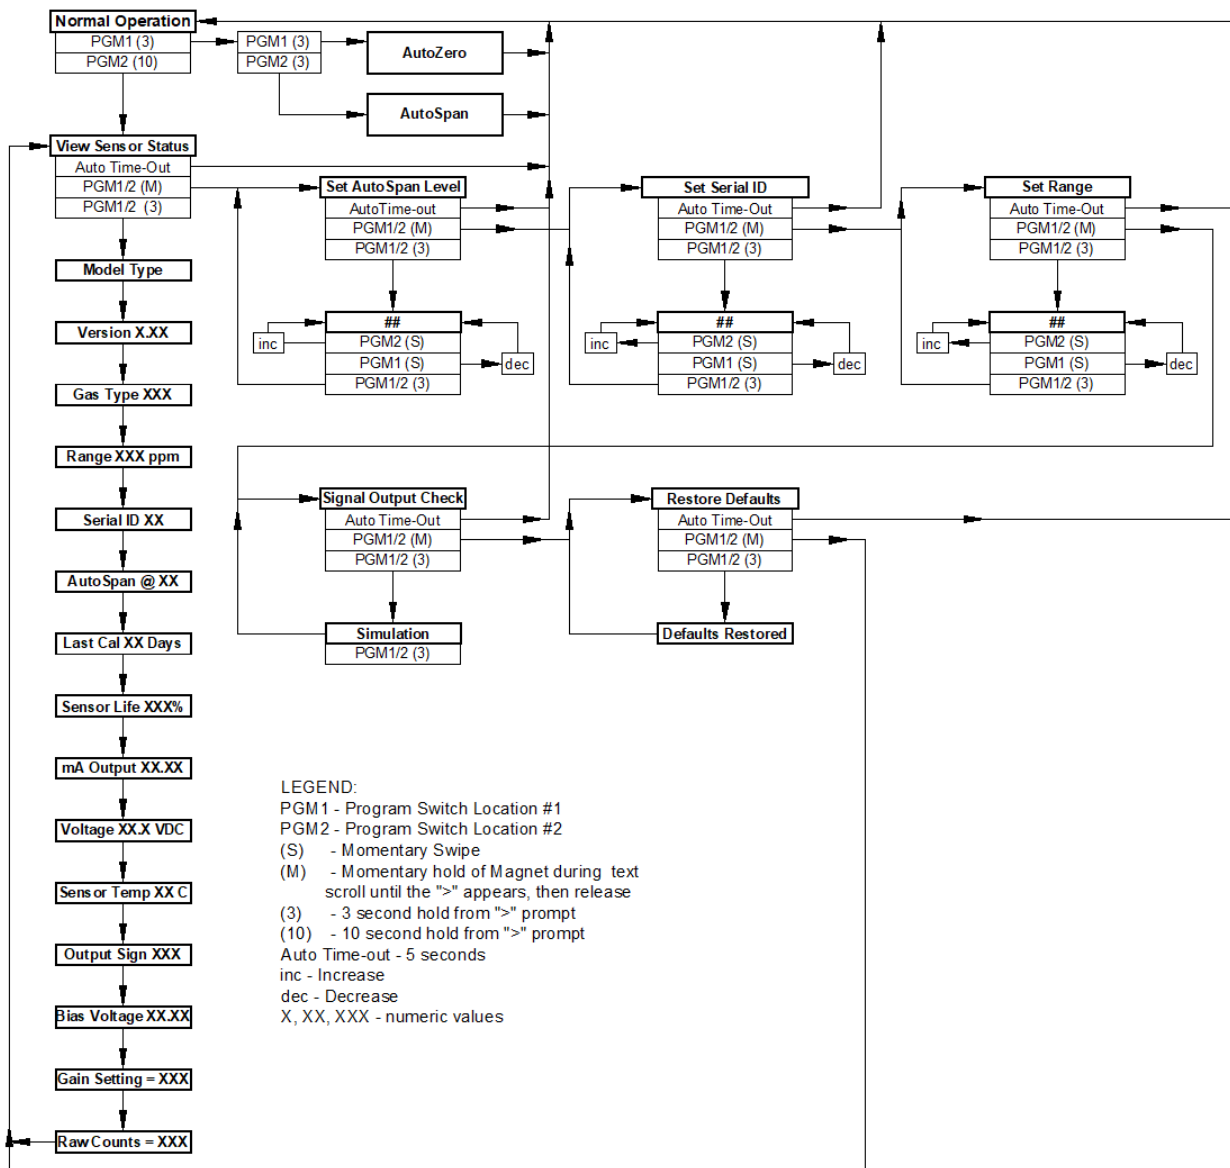
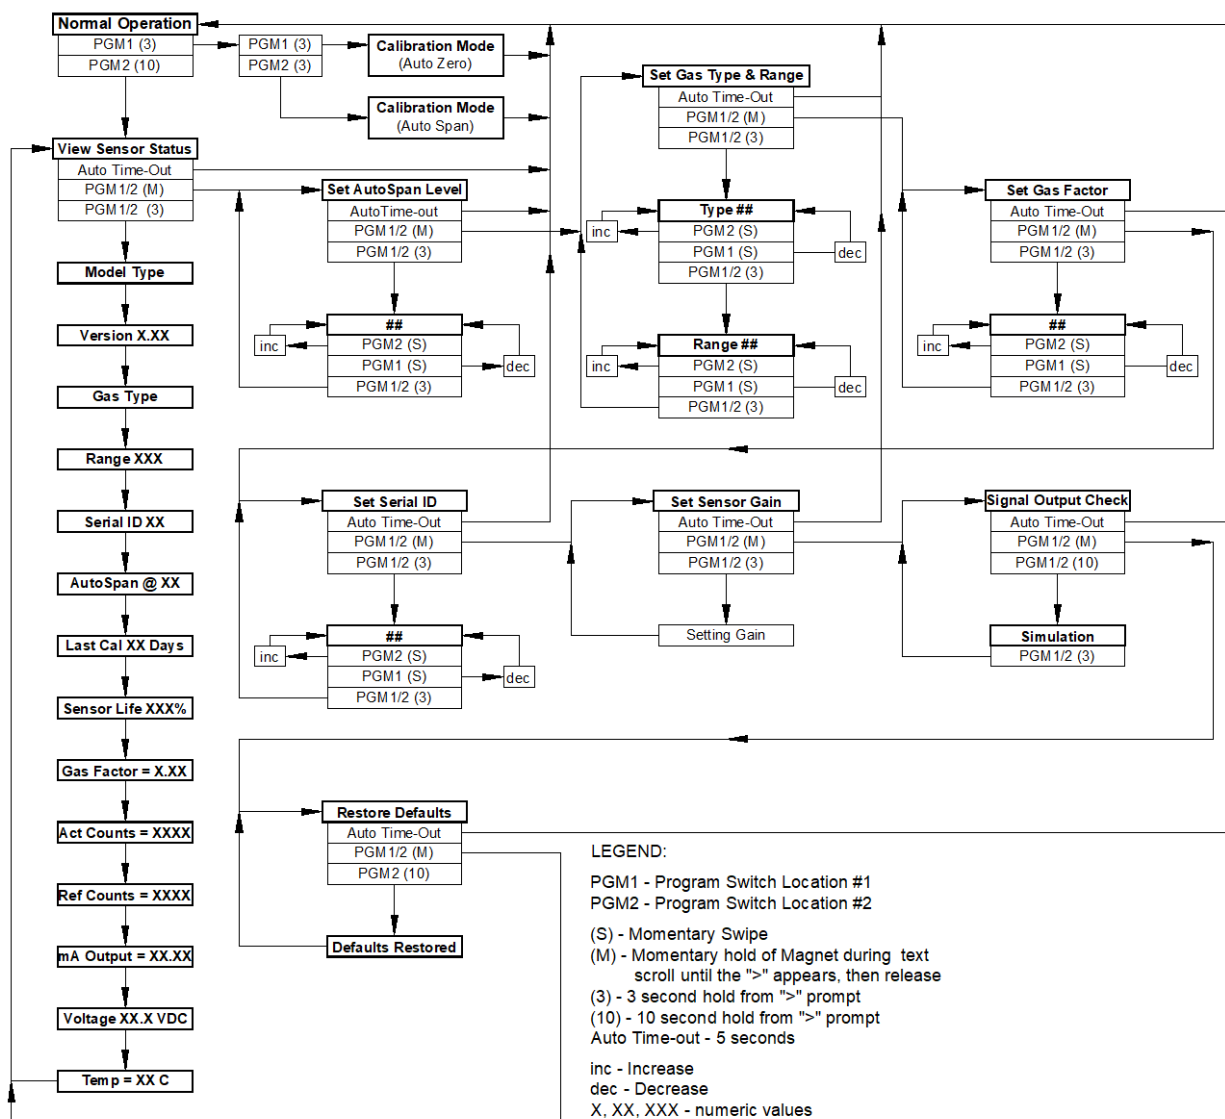

Figure 11 DM-700 Software Flowchart
Figure 12 IR-700 Software Flowchart
The operating interface is menu-driven via the two magnetic program switches. The menu list has three modes that include sub-menus, as indicated below. Refer also to the complete Software Flow Chart in Figure 11 and Figure 12.
1. Verify that the AutoSpan Level is equal to the calibration span gas concentration. (Refer to View Sensor Status in the Software Flow Chart, Figure 12.) If these do not match, adjust the AutoSpan level as described in section 5.5.3.
2. Verify that the AutoSpan Level is equal to the calibration span gas concentration. (Refer to View Sensor Status in the Software Flow Chart, Figure 11.) If these do not match, adjust the AutoSpan level as described in 5.5.3.